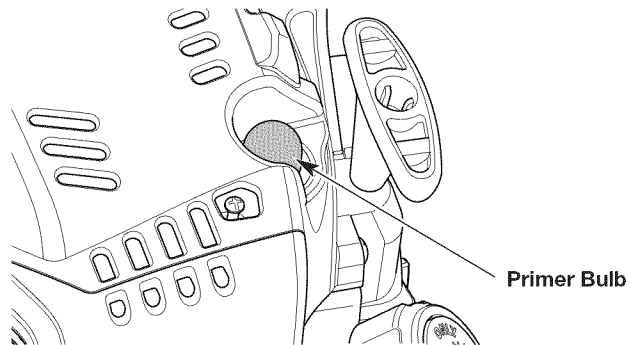

Fig. 9
3. Slowly press and release the primer bulb **10 times** (Fig. 9). If fuel cannot be seen in the primer bulb, press and release the primer bulb until fuel is visible.
2. Press and hold the On/Off switch in the OFF (O) position until the engine comes to a complete stop (Fig. 9).